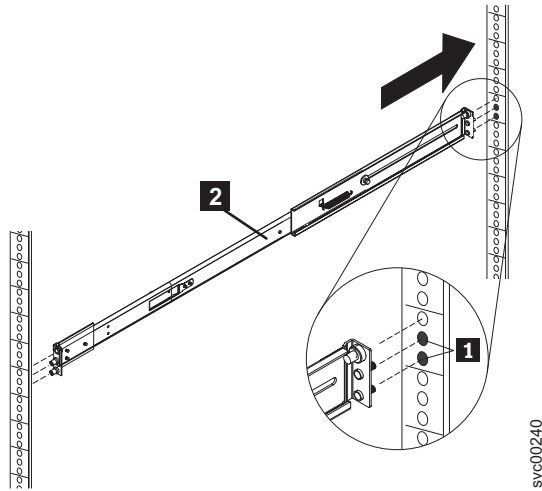

Figure 37. Inserting the right slide rail into the rear rack mounting flange
3. Insert the right slide rail **2** into the rear rack mounting flange, as shown in Figure 37 on page 52, with the rail pins **1** protruding through the flange.